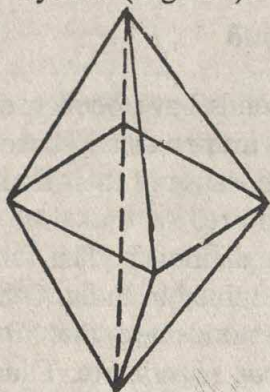

Fig. 1.7. Diamond crystal.
(3) The natural diamonds form octahedral crystals (Fig. 1.7).